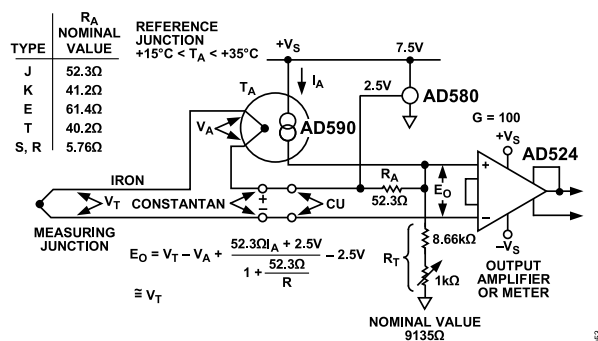

Figure 53. Cold Junction Compensation
Figure 53 shows a simple application in which the variation of the cold junction voltage of a Type J thermocouple-iron \pm constantan is compensated for by a voltage developed in series by the temperature sensitive output current of an AD590 semiconductor temperature sensor.
5. For other ranges of ambient temperature, the equation in Figure 53 may be solved for the optimum values of R_T and R_A .